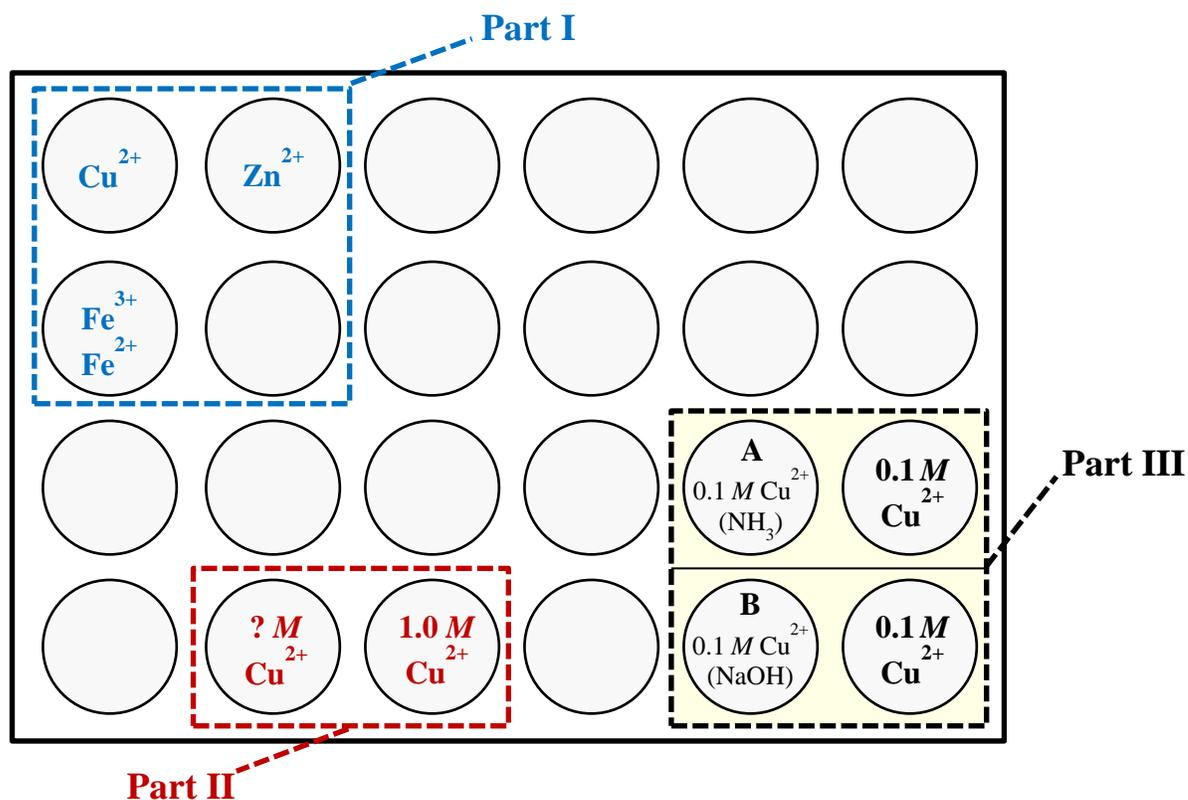

Figure 3. Suggested layout of half cells in the well plate.
2. Obtain ~4 mL of 1.00 M  $\text{CuSO}_4$  in a clean small test tube. Add ~2 mL of this solution to two of the wells; see the well layout (**Figure 3**).
- Use a disposal plastic pipette and add 2 drops of the 1.00 M  $\text{CuSO}_4$  to the empty well plate adjacent to one of the wells in step 1 (see the layout in **Figure 3**). Using a plastic pipette, dilute the 2 drops of  $\text{CuSO}_4$  solution by adding ~ 2 mL of deionized water to the well.
To the well labeled “A” for part III (see **Figure 3**) and its partner just to the right of it, add 2 mL of 0.10 M  $\text{CuSO}_4(\text{aq})$ . *Do not use 1.0 M  $\text{CuSO}_4$ .* Initially, you will measure the cell potential between these two cells. What should the cell potential be if  $[\text{Cu}^{2+}]$  is the same?
- To the well labeled “B” for part III (see **Figure 3**) and its partner just to the right of it, add 2 mL of 0.10 M  $\text{CuSO}_4(aq)$ . Clean the electrodes and prepare a fresh salt bridge.
- Connect the copper electrodes to the voltage probe leads. Connect the black lead to the electrode with the solution in well plate B, and the red lead to the 0.10 M  $\text{CuSO}_4$  solution immediately to its right, from part II (see **Figure 3**). Measure and record the cell potential in the table below. Complete the next two steps in fairly rapid succession.